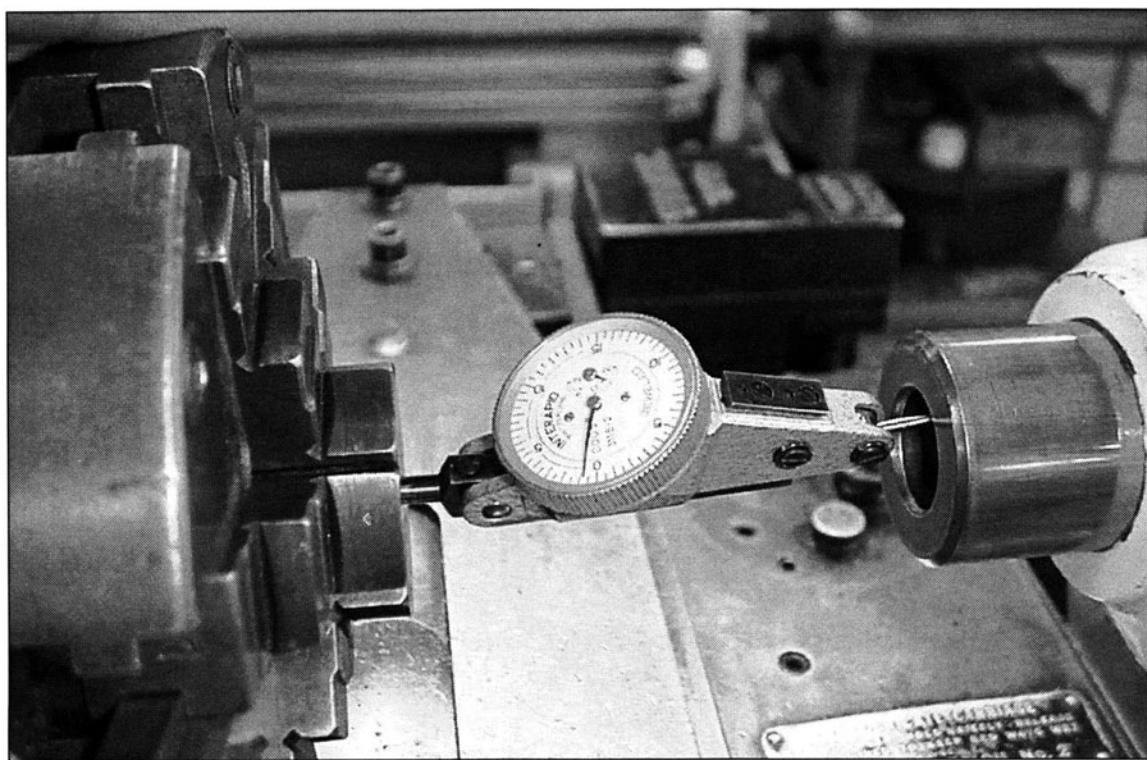

FIGURE 2-5 An indicator is rotated in the spindle to check the tailstock lineup.
32. *Cut shafts precisely parallel by lining up the tailstock. (See Fig. 2-5)*